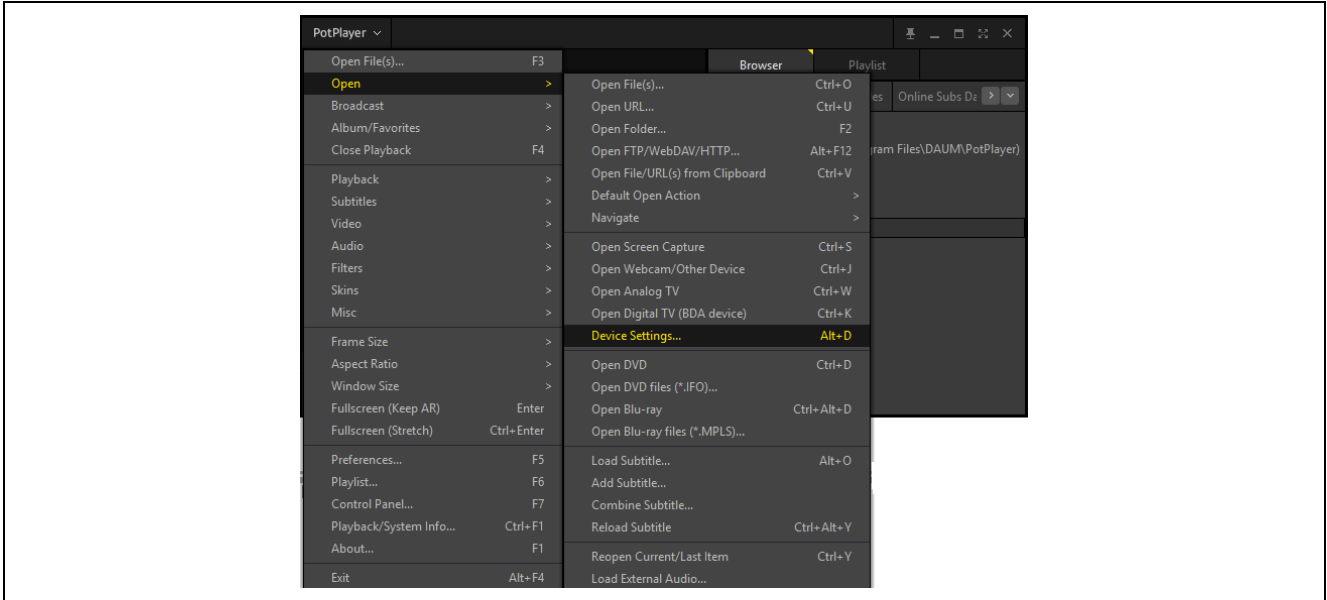

Figure 2.16 HDMI Connection
4) Open potplayer, enter “Open” menu -> “Device settings” as below Figure 2.16: